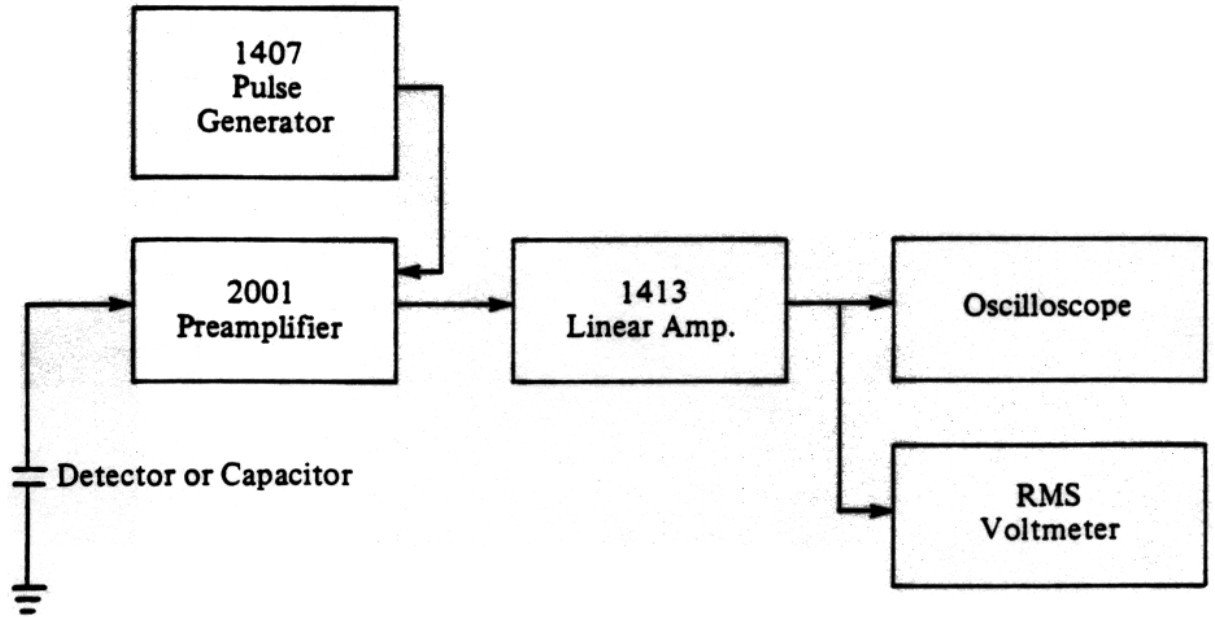

Figure 5-1. Measuring Amplifier Noise Resolution
1. Connect the Model 1407 to the preamplifier, amplifier, oscilloscope, and rms voltmeter as shown in Figure 5-1.